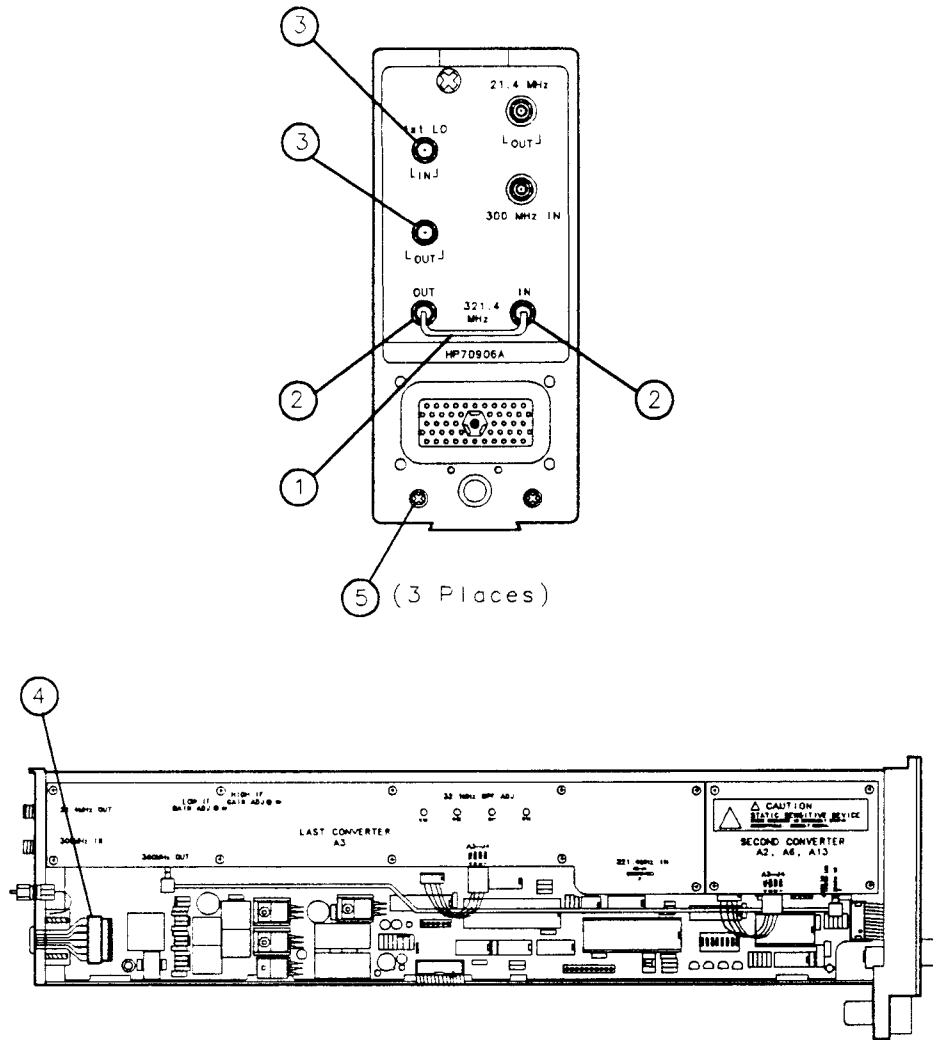

Figure 6-14. Rear Panel Replacement
2. Remove the 1st LO OUT 50 $\Omega$  termination from rear-panel J3 (1). See Figure 6-14.
3. Disconnect W12 semirigid jumper from the rear-panel connectors J5 and J6 (1). Remove the SMA lock-nuts and washers from rear-panel J5 and J6 connectors (2). See figure 6-14.
4. Remove the 50 $\Omega$  termination from the rear-panel connector J3 1st LO OUT (3), if present.
5. Remove the SMA lock-nuts and washers from rear-panel J2 1st LO IN and J3 1st LO OUT (3).
6. Remove both side covers and carefully disconnect the W13 Mylar ribbon cable connectors from A4 Power Supply/ Controller J1 (4).
7. Remove the three screws securing the rear panel (5).